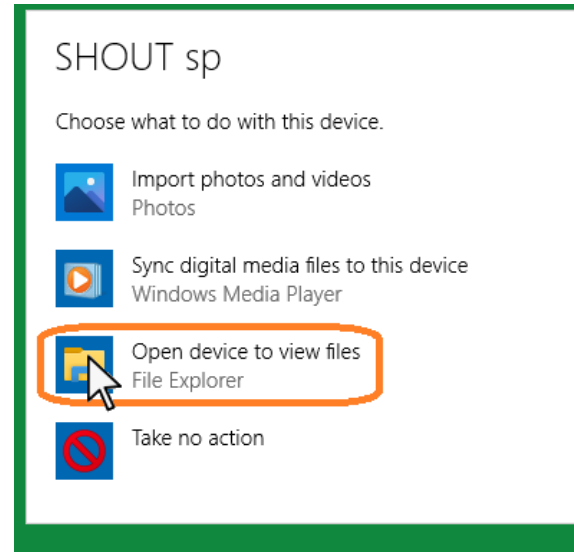

Figure 81: AutoPlay Options
- a. A secondary popup menu titled *SHOUT sp* displays (see **Figure 81**).
7. Select **Open Device to view files** to launch Windows File Explorer (see **Figure 81**).